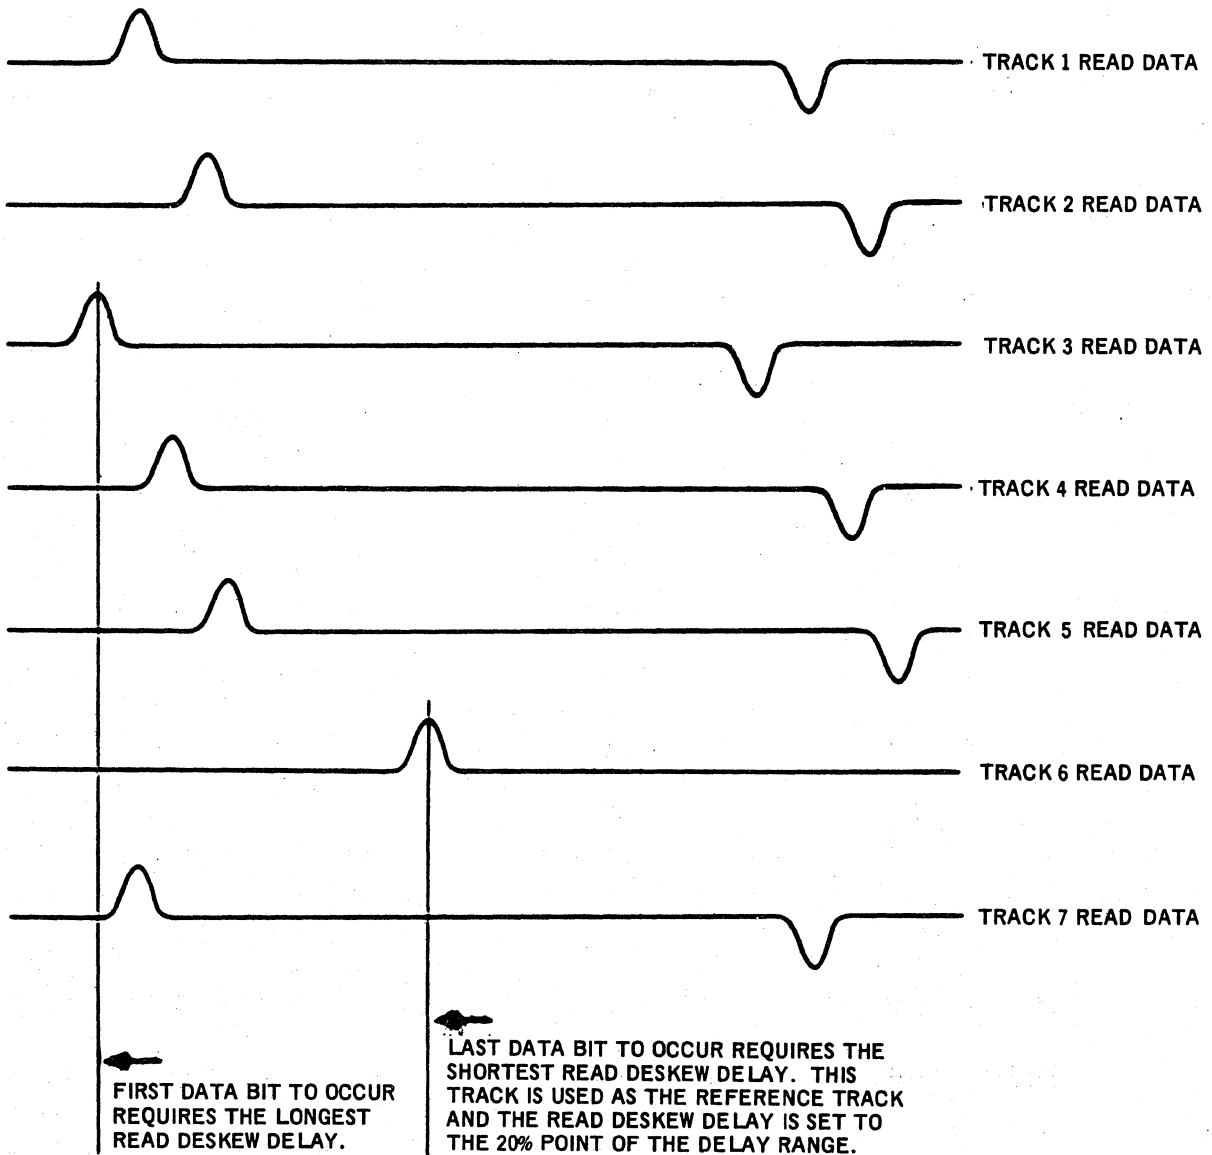
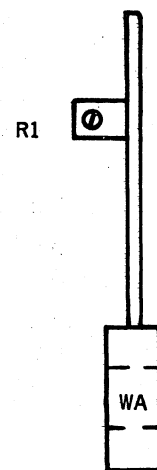

Figure 5-3
Figure 5-5
- Step 7: Connect the channel A input of the oscilloscope to observe the read signal at pin 12 of the track 1 read deskew (RD) PCB at A2.
- Step 8: Connect the channel B input of the oscilloscope to observe the read signal at pin 12 of the track 2 read deskew (RD) PCB at A3.
- Step 10: Determine which of the two data bits displayed on the oscilloscope is occurring last. (In the example shown in Figure 5-3, the track 2 read data bit occurs later than the track 1 read data bit.) The track in which the data bit is occurring last is used as the comparison track for the next step.
Figure 5-3 illustrates the hypothetical timing relationship between the amplified read data outputs of each track in a 7-track system; a 9-track system would have two additional amplified read data outputs. The relationship shown is for example only, the actual time at which each bit occurs is determined by the gap-scatter of the read heads in the system being adjusted.
- Step 12: Determine which of the two data bits displayed on the oscilloscope is occurring last. (In the example shown in Figure 5-3, the track 2 read data bit occurs later than the track 3 read data bit.) The track in which the data bit is occurring last is used as the comparison track for the next step.
- Step 13: Repeat Steps 11 and 12 for the remaining read data tracks to determine which data bit of the character is occurring last. Refer to Table 5-3 for the location of the read deskew PCB assemblies. (In the example shown in Figure 5-3, track 2 would be used as the comparison track until the read data bits of tracks 2 and 5 are compared. The track 5 read data bit occurs later than the track 2 read data bit, thus track 5 would be used as the comparison track for track 6. The track 6 read data bit occurs later than the track 5 read data bit, thus track 6 would be used as the comparison track for track 7. The track 6 read data bit occurs later than the track 7 read data bit, thus the track 6 read data bit of the character occurs last in the example.) The track in which the data bit is occurring last is used as the selected reference track for the next step.
The write deskew adjustment is made while reading the tape as a series of ONEs is being written. The skew correction is accomplished by setting the delay time of each write deskew single-shot. (The write deskew single-shots are located on the write amplifier PCB assemblies.) A reference track is selected and the trailing edge of the center track (track 5 in 9-track systems, track 4 in 7-track systems) read deskew delay pulse is aligned with the trailing edge of the selected reference track read deskew delay pulse. The center track is then used as the reference track during the write deskew adjustment. The read amplifier gain is adjusted to ensure that the read amplifier output is normal for write check operation before setting the write deskew single-shot delay times. Steps 6 through 8 pertain to the read amplifier gain adjustment. Refer to Table 5-4 for the location of the write amplifier PCB assemblies and see Figure 5-5 for the location of the write deskew potentiometer.
- Step 11: Adjust potentiometer R1 on A14 so that the write deskew delay pulse is at the 20-percent point of the delay range, as indicated on the oscilloscope. (See Figure 5-5 for potentiometer location.) For example; if the minimum delay time obtained by adjusting R1 fully counterclockwise is 10 μ sec and the maximum delay time obtained by adjusting R1 fully clockwise is 25 μ sec, 20-percent of the 15- μ sec delay range is 3 μ sec, thus the delay time is set to 13 μ sec (10 μ sec minimum plus 3 μ sec for 20-percent of the delay range).
- Step 20: Connect the channel A input of the oscilloscope to observe the read signal at pin 12 of the track 1 read deskew (RD) PCB at A2.
- Step 21: Connect the channel B input of the oscilloscope to observe the read signal at pin 12 of the track 2 read deskew (RD) PCB at A3.
- Step 23: Determine which of the two data bits displayed on the oscilloscope is occurring last. (In the example shown in Figure 5-3, the track 2 read data bit occurs later than the track 1 read data bit.) The track in which the data bit is occurring last is used as the comparison track for the next step.
Figure 5-3 illustrates the hypothetical timing relationship between the amplified read data outputs of each track in a 7-track system; a 9-track system would have two additional amplified read data outputs. The relationship shown is for example only, the actual time at which each bit occurs is determined by the gap-scatter of the write heads in the system being adjusted. (The gap-scatter of the read heads is compensated for by the read deskew adjustment.)
- Step 25: Determine which of the two data bits displayed on the oscilloscope is occurring last. (In the example shown in Figure 5-3, the track 2 read data bit occurs later than the track 3 read data bit.) The track in which the data bit is occurring last is used as the comparison track for the next step.
- Step 26: Repeat Steps 24 and 25 for the remaining read data tracks to determine which data bit of the character is occurring last. Refer to Table 5-3 for the location of the read deskew PCB assemblies. (In the example shown in Figure 5-3, track 2 would be used as the comparison track until the read data bits of tracks 2 and 5 are compared. The track 5 read data bit occurs later than the track 2 read data bit, thus track 5 would be used as the comparison track for track 6. The track 6 read data bit occurs later than the track 5 read data bit, thus track 6 would be used as the comparison track for track 7. The track 6 read data bit occurs later than the track 7 read data bit, thus the track 6 read data bit of the character occurs last in the example.) The track in which the data bit is occurring last is used as the selected reference track for the next step.